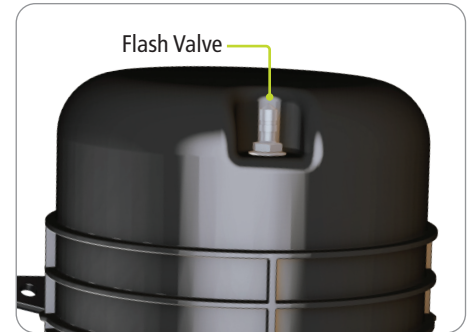

Figure 52
1. Apply 5 PSI of air to the flash valve on dome. (Figure 52)